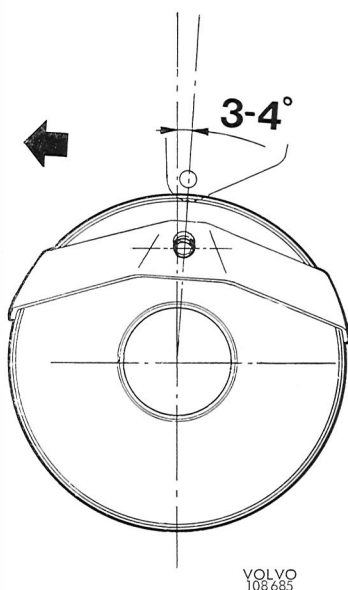

Fig. 2-202. Position of the round rear muffler
**Round rear muffler:** The muffler brackets should be aligned immediately under the body brackets. A line through the muffler bracket and the muffler center should deviate approx. 4° from vertical, see Fig. 2-202.